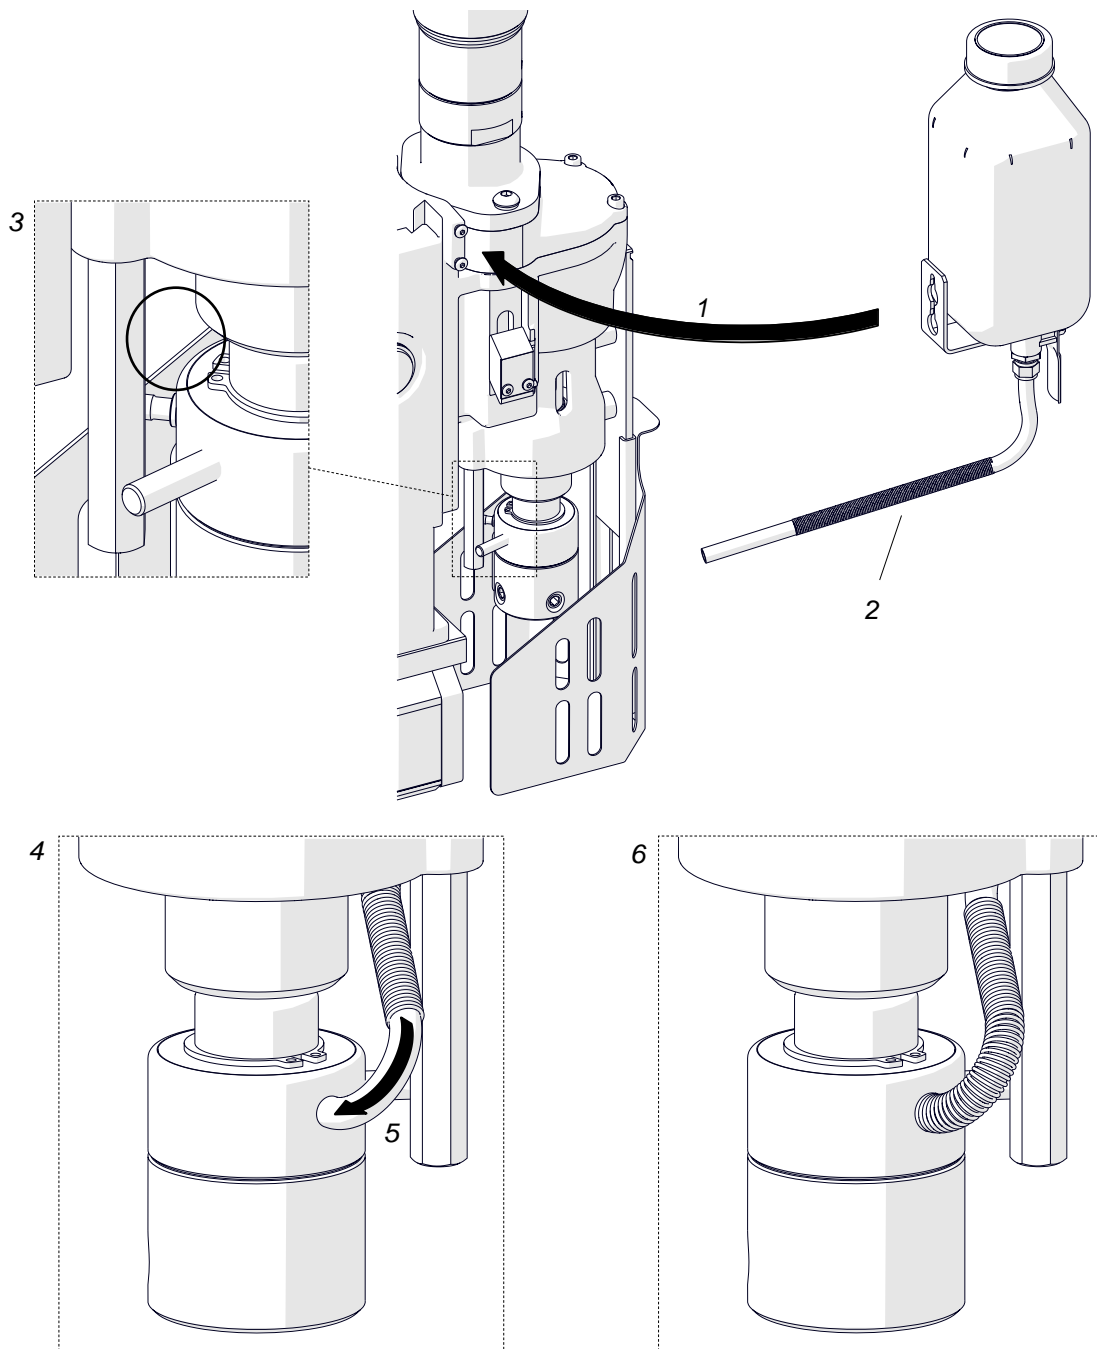

Fig. 6. Installing the cooling system
Hang the cooling system bottle on the screws (1, Fig. 6) and place the protective spring onto the bottle hose (2). Insert the hose between the vertical rod and arbor (3), and attach the hose to the fitting (4). Slide the spring to the hose end (5) so that the spring rests on the arbor (6).